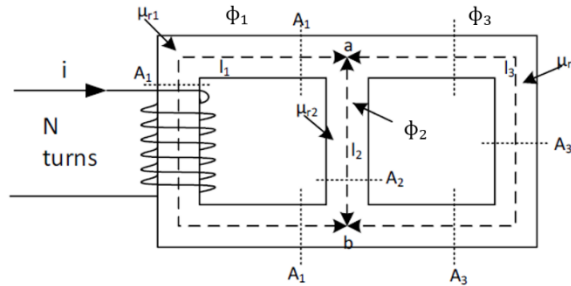

Fig. 1
1. In Fig.1, the closed magnetic path lengths from a to b are  $l_1=l_3= 30 \text{ cm}$ ,  $l_2= 10\text{cm}$ . Cross sectional areas are  $A_1=A_3=2 \text{ cm}^2$ ,  $A_2=4 \text{ cm}^2$ , the relative permeabilities are  $\mu_{r1}=\mu_{r3}=2250$ ,  $\mu_{r2}=1350$ . For  $N=50$  and  $I=0.5\text{A}$ ,